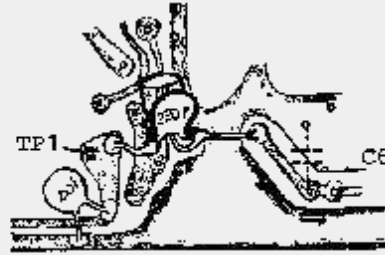

Figure 2
3. Remove the six (6) screws securing the PLL unit to the chassis and fold the unit over, to allow access to the foil side of the circuit board.
4. Remove the jumper wire that is installed between TP-1 and C6. Install the parallel circuit consisting of the 220 pF capacitor and the 470 μ H coil in its place. See figure 2.
5. Install the .001 μ F capacitor as shown in figure 2.